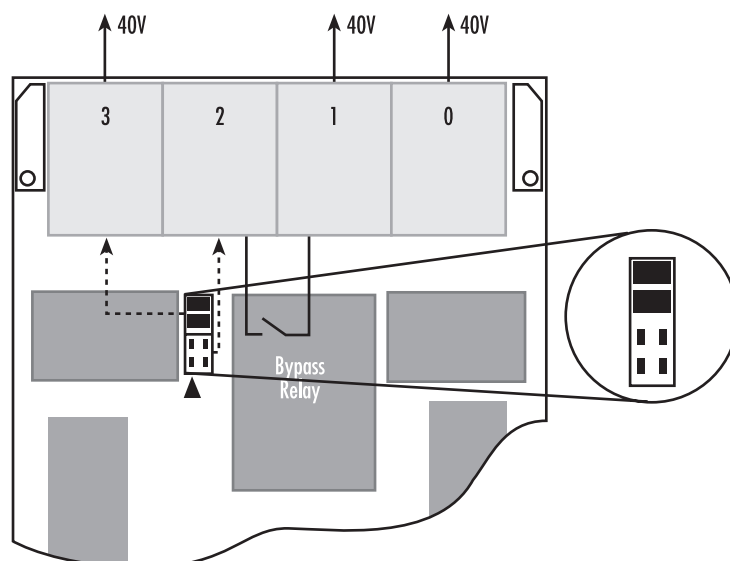

Figure 22. Upper four jumper pins bridged
- Upper four jumper pins bridged: this setting is used with port 2 configured as fallback and connected to a NT as shown in figure 22 on page 43.